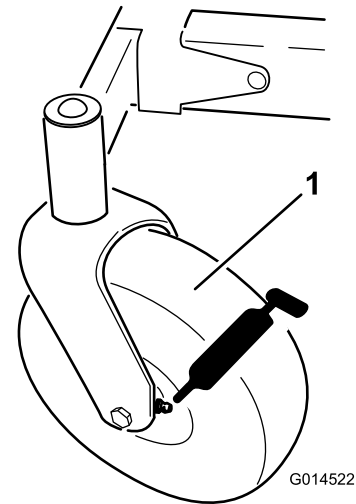
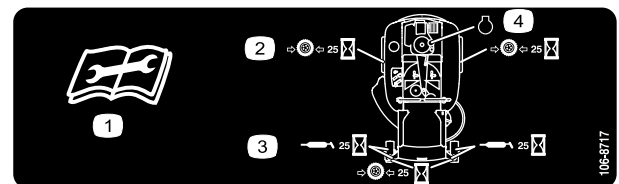

Figure 26
Figure 27
3. Clean the grease fittings (Figure 26 and Figure 27) with a rag.
4. Connect a grease gun to each fitting and pump grease into the fittings until grease begins to ooze out of the bearings (Figure 26 and Figure 27).